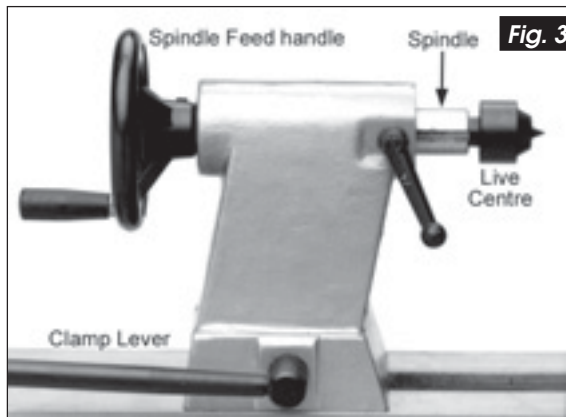

Fig. 3
The tailstock is held firm to the bed by means of a clamp (see fig 3). Turning the clamp lever (item 50) anticlockwise, by approx. one third of a turn, should release the tailstock, allowing it to slide along the bed to the desired position, and turning the lever back again should firmly lock the tailstock in that position.